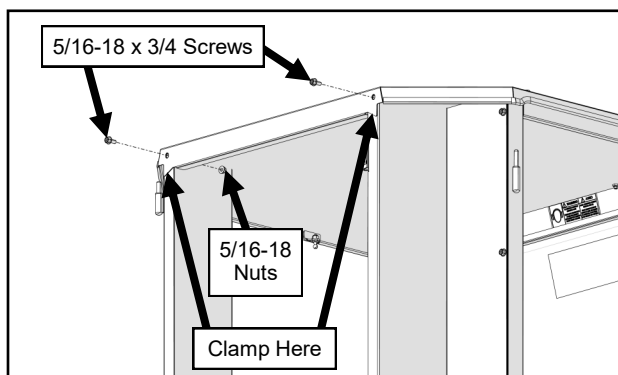

Fig. 13.2b (Roof Fasteners)
13.3 Once all roof fasteners are started, measure the width of the rear legs (outside to outside). Adjust the width if needed to 27-7/8". Measure opening corner to corner for squareness and clamp the rear flange of the roof to each of the rear legs. If necessary a bar clamp may be used to pull the rear legs in to 27-7/8". See Figures 13.2b and 13.3.